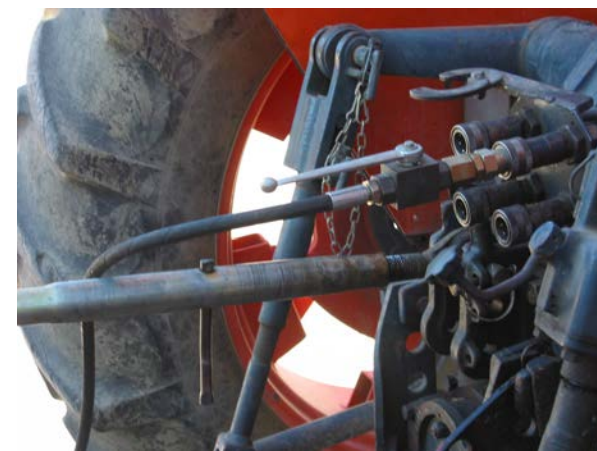

Fig. 21
- 3) Connect the hydraulic pipe of the piston to the tractor's distributor (Fig. 21)